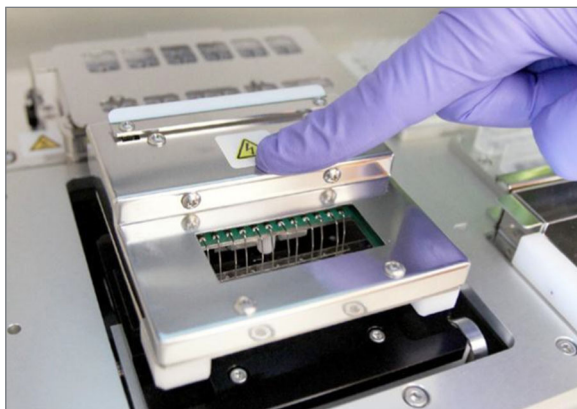

FIGURE 5.20: Carefully lower the electrode fixture into place over the cartridge
14. Carefully lower the electrode fixture in place over the cartridge (**FIGURE 5.20**). The 24 electrodes should insert easily into the 24 wells. Touch **Next**.
IMPORTANT: Do not use the release handle to lower the fixture. Doing so will prevent the fixture from locking. Instead, press on the body of the fixture away from the release handle (**FIGURE 5.20**).